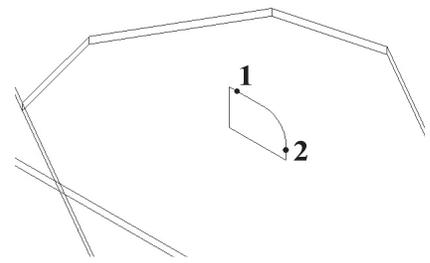

Fig. 54
- Step 6. Click Position 1 and Position 2, **Fig. 54**. Use **F3** to repaint the screen.